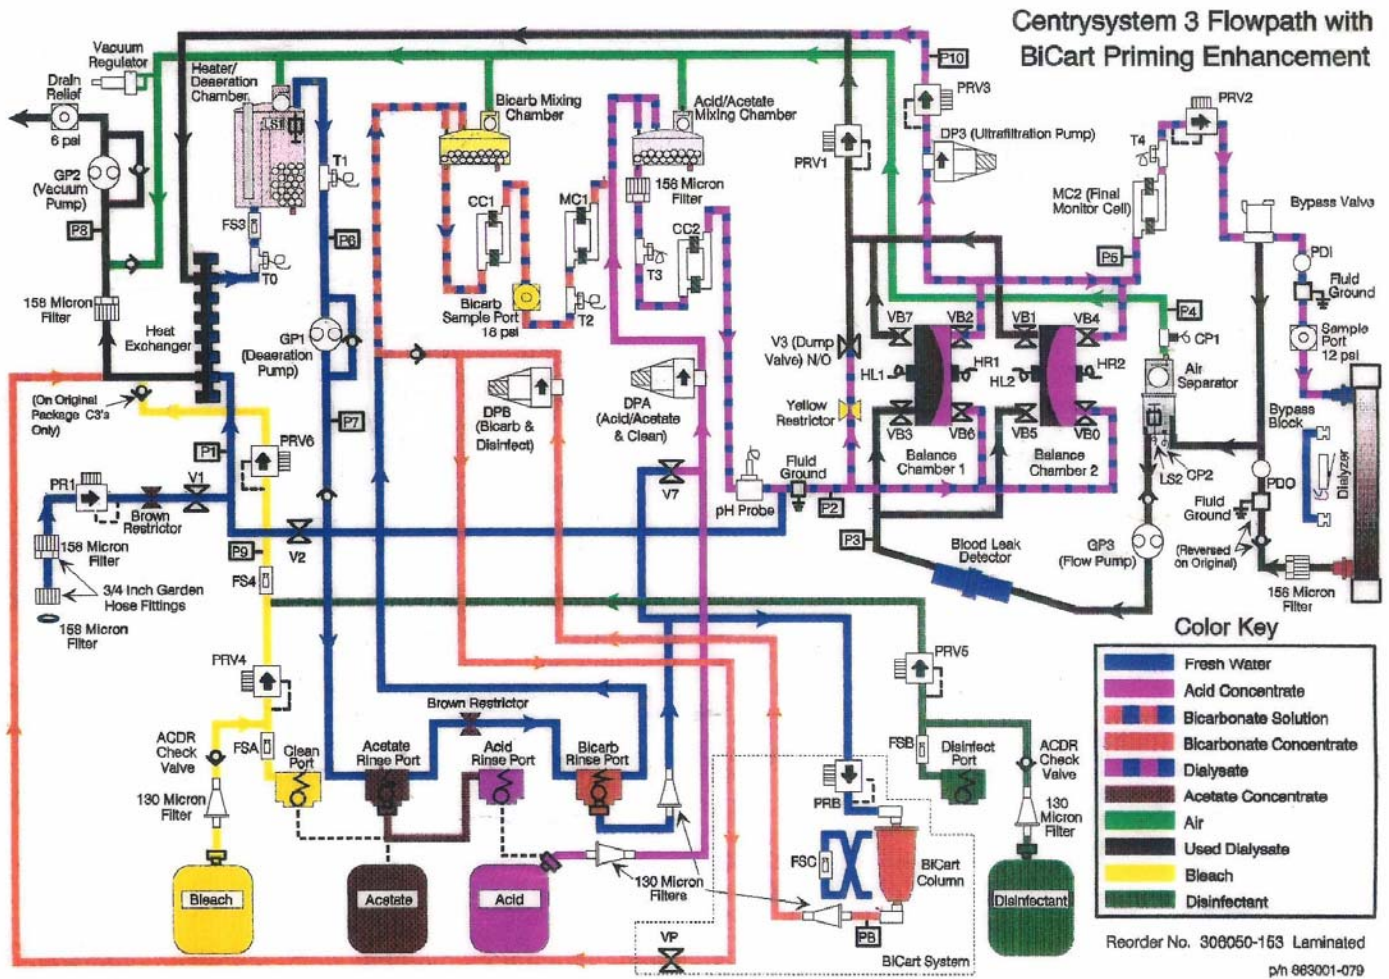

Figure 1 - Cobe Centrystem 3 Flow-path Diagram with BiCart Priming Enhancement
- b. Clean mode: The DPA acts as a cleaning solution chemical pump when in “CLEAN” mode. The operator should plug the acetate concentrate line into the yellow chemical port in Figure 1. The port is internally connected to a special container located at the back of the machine. The cleaning agent (usually chloride solution) is drawn up through a 130 micron filter, check valve, and flow switch FSA. FSA monitors pulses from pump to ensure that it does not run out of chemical.
11. Sample port / pressure vent (white): It provides a convenient and easy access point for taking dialysate samples, and for venting excess pressure if the flow-path gets blocked. The venting helps prevent the tubing from becoming disconnected inside the machine. Each vent/port assembly is color-coded to avoid confusion (see Figure 1). The dialysate sample port is white and located in the inlet line to the dialyzer. It allows the operator to take the final sample of dialysate with a syringe. The port vents around 850 mmHg of pressure.